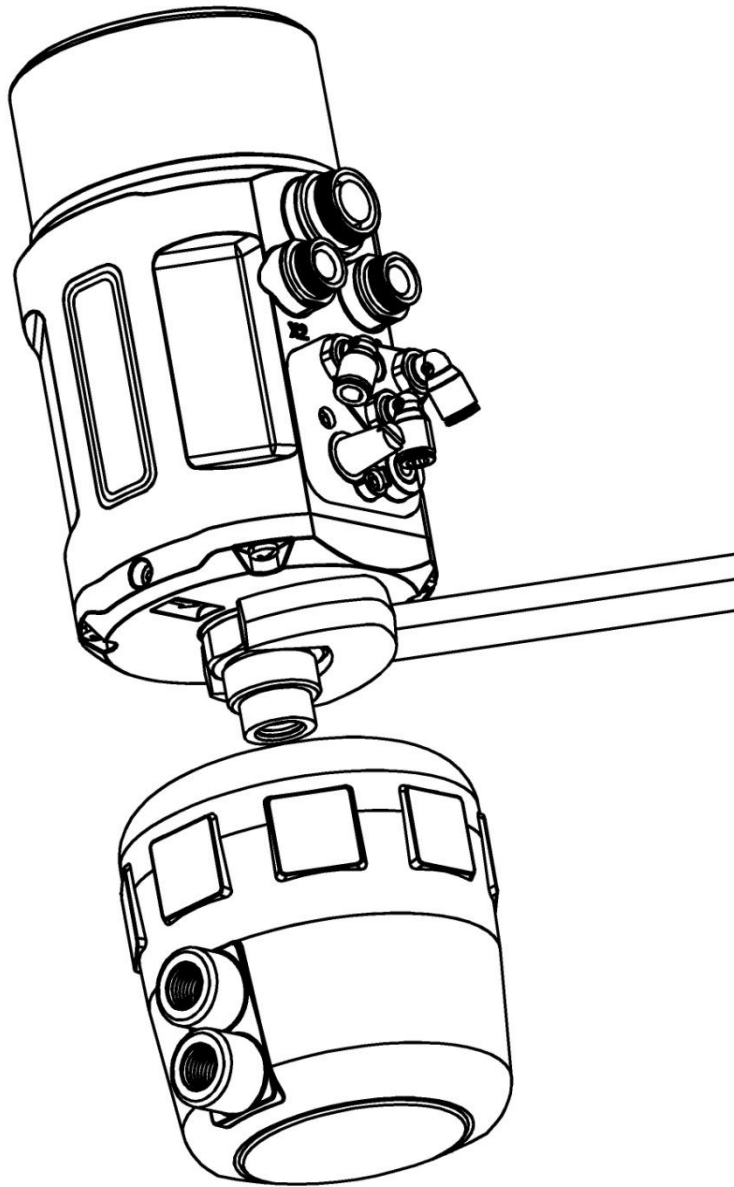

Figure 7. Actuator Combination
4. Raise the internal valve stem of the actuator to the highest position. Make the actuator connection of the positioner entering into the thread connection of the actuator by **NO.32 wrench**. As shown in Figure 7.